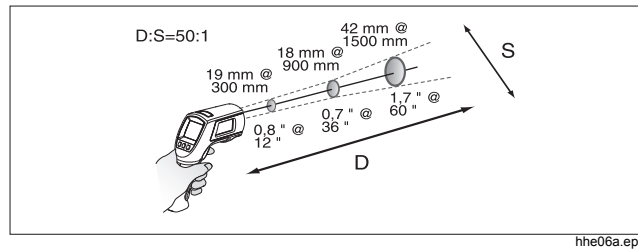

Figure 5. Distance and Spot Size
As the distance (D) from the object under measurement increases, the spot size (S) of the area measured by the Product becomes larger. The relationship between distance and spot size (D:S) is shown in Figure 5. The spot sizes indicate 90 % encircled energy.